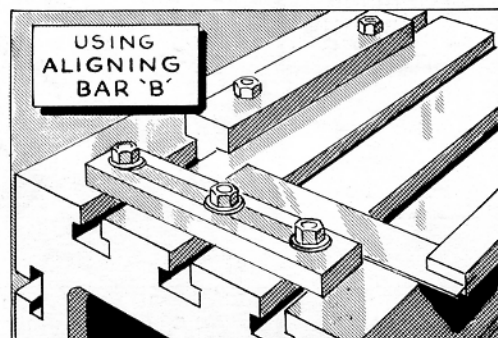

FIG. 170
4. Use either a solid square (Fig. 170), or a combination square to set the new aligning strip at  $90^{\circ}$  with the one previously located, or at  $90^{\circ}$  with the edge of the table.
9. Tighten the nuts down securely when the proper adjustment has been made. The strip may be set also by placing the beam of the square against the edge of the table (Fig. 170) and aligning the strip parallel with the blade of the square. If a more accurate setting is required, an indicator can be used.